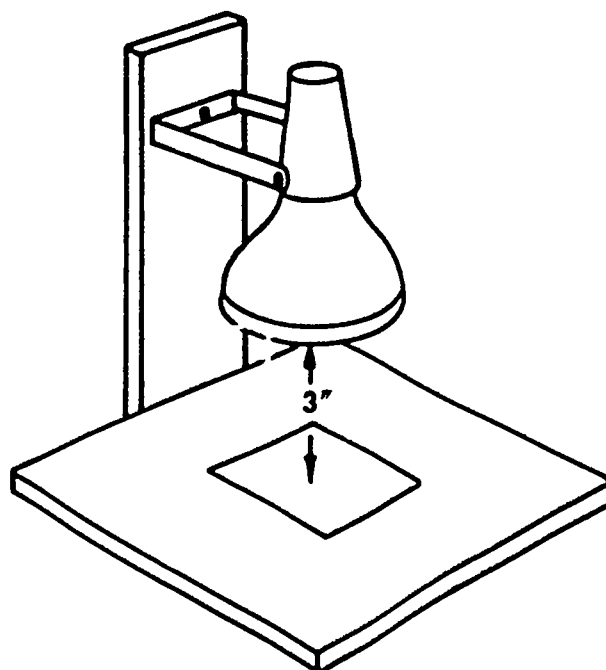

Fig. 100-2. Heat Lamp
- b. Place the plastic on the hardboard platform under the heat lamp. The lamp should be 3" from the plastic. See Fig. 100-2.
- (1) One end of the bend line should be between the saw kerfs in the edge of the plastic.
- (2) The folded paper should be placed between the folded surfaces of your plastic.